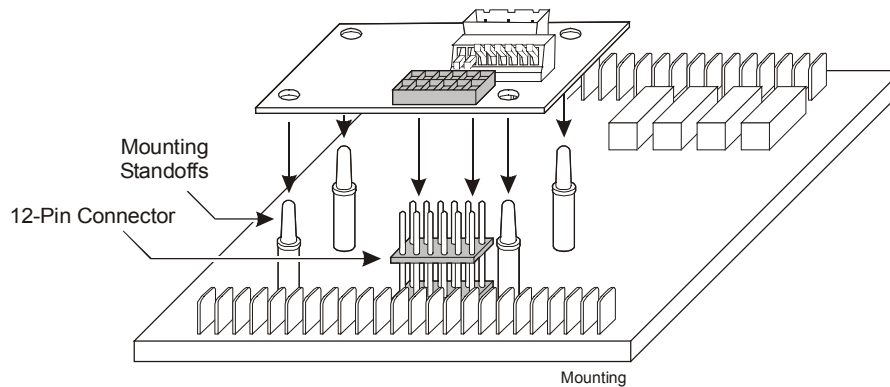

Figure 2: Mounting the COM1100 Module
The COM1100 module connects to the controller and network as follows (See Figure 2.):
2. Align the 12-pin connector with the bottom entry holes while aligning the standoff holes with the controller's standoffs. See Figure 2. To do this, tilt the COM1100 slightly downward near the corner containing the 12-pin connector and insert the nearest standoff into the standoff hole. Align and insert the 12-pin connector.